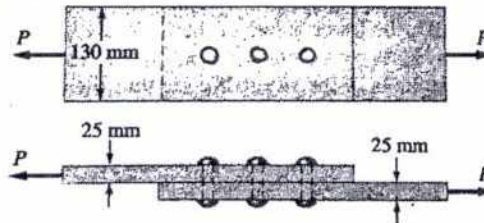

Figure 3
- Q3 The lap joint is connected by three 20 mm diameter rivets/bolts as shown in Figure 3. Assume that the axial load, $P = 50$ kN is distributed equally among the three rivets/bolts, find (a) shear stress in a rivet/bolts; (b) bearing stress between a plate and rivet/bolts, and (c) the maximum average tensile stress in each plate. (8)